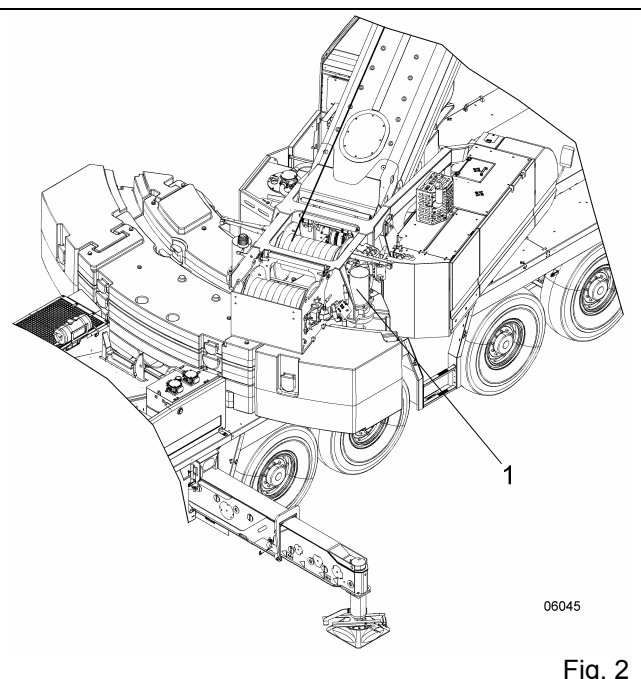

Fig. 2
- Actuate rocker tip switch **27** - "Counterweight up - down" to position **"DOWN"** and keep it pressed until the ballast cylinders (Fig 2, Pos. 1) are **extended completely**. The green pilot lamp **33** "counterweight down" is lit.